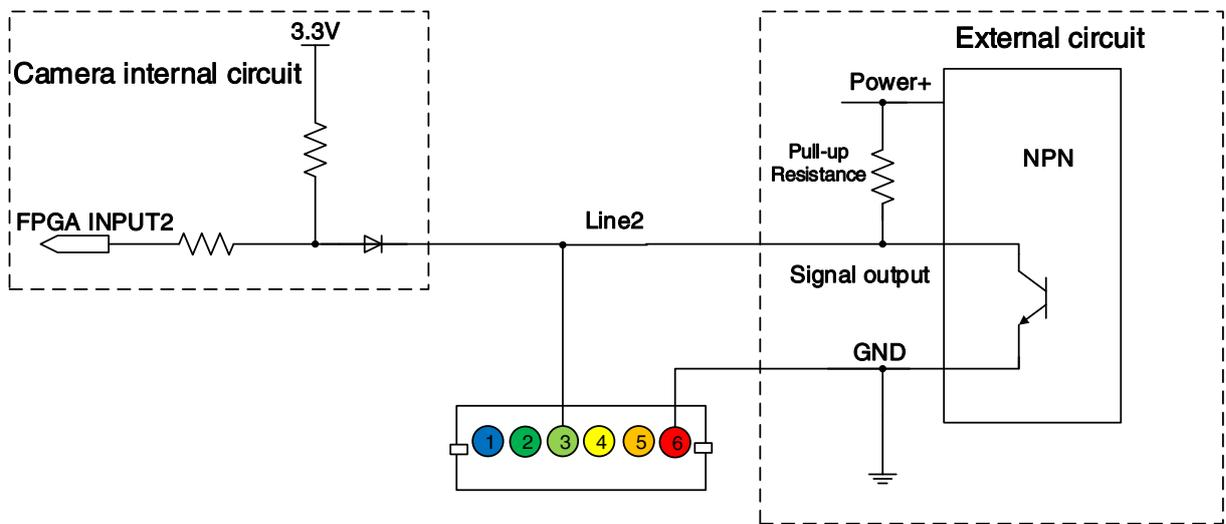
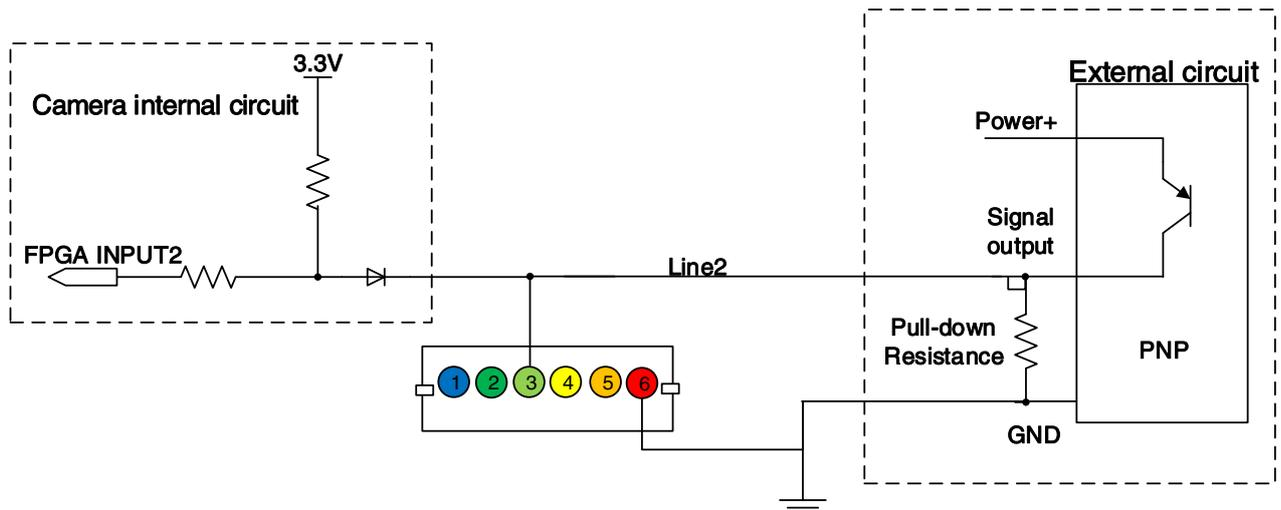

Figure 7-37 NPN photoelectric sensor connected to Line2 input circuit
Figure 7-38 PNP photoelectric sensor connected to Line2 input circuit
- When input of Line2 is high, input current is lower than 100uA. When input of Line2 is low, input current is lower than -1mA. The connection method between Line2 and NPN/PNP photoelectric sensors is shown in Figure 7-37 and Figure 7-38. The relationship between the pull-up resistor value and the external input voltage is shown in Table 7-19.